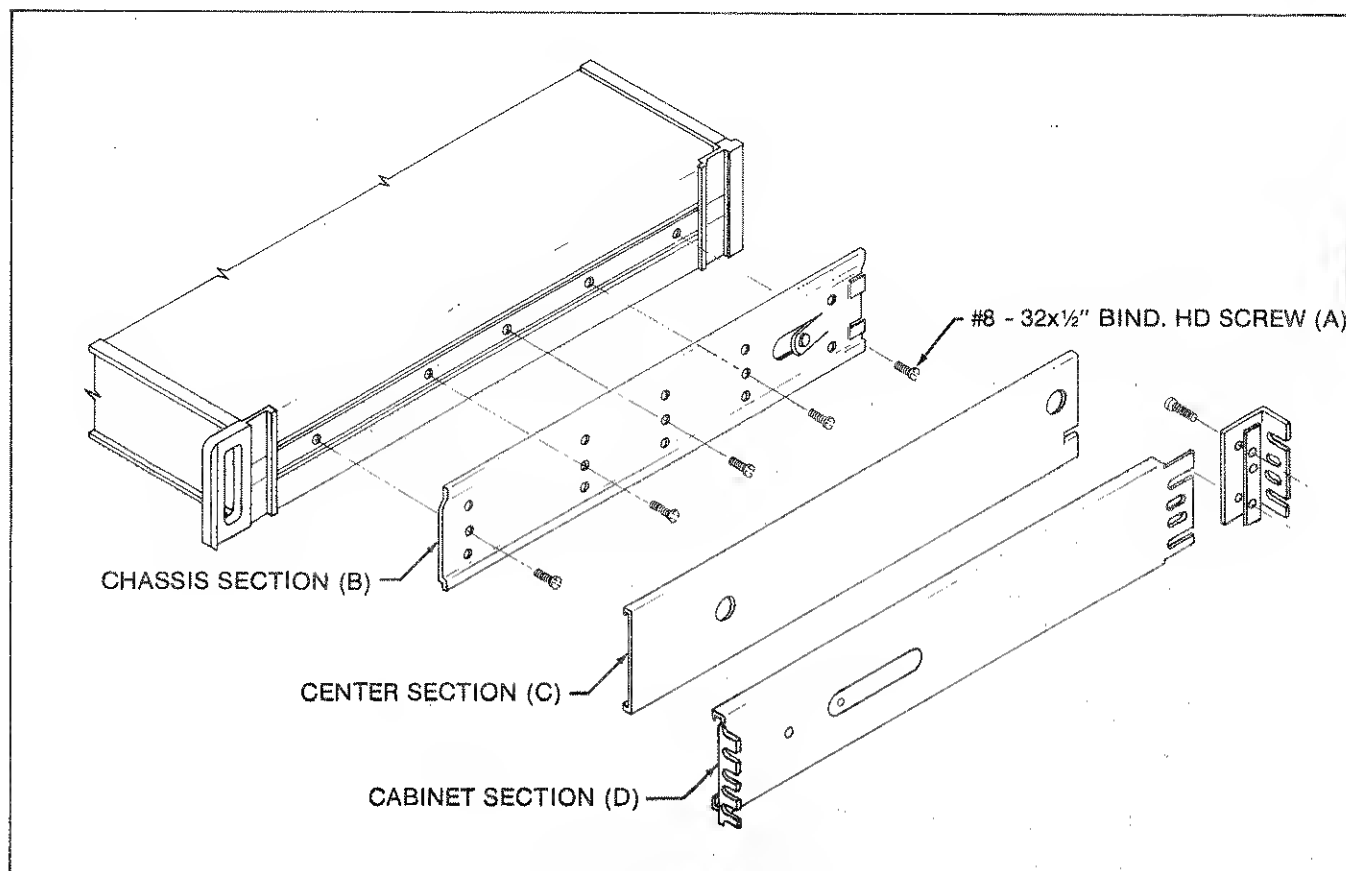

Figure 7-2. Rack Slide Kit
2. Refer to Figure 7-2, and, using the screws supplied with the kit, attach the Chassis Section (B) of the slide kit to each side of the unit. Use the center row of mounting holes.
3. Install the Cabinet Section (D) and the Center Section (C) in the equipment rack.
5. Depress the spring locks on the Chassis Section (B) and join Section B and C.